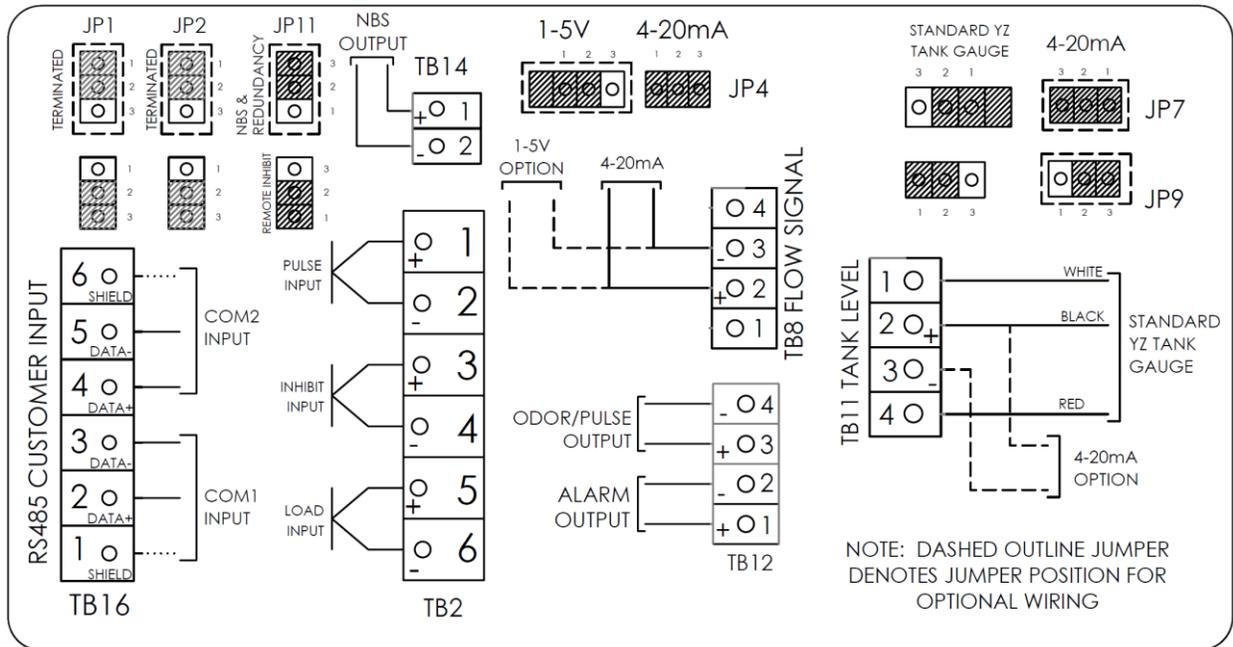

Figure 6 N-400 Controller Wiring Diagram Label
1. Connect the analog flow signal device to the termination block (TB8) located in the N-400 Controller OR the pulsed flow input to the termination block (TB2). Note the jumper placement (JP4) for each analog flow signal type and adjust if necessary. If using a pulsed flow input, the jumper position (JP4) is inconsequential. Refer to the *Wiring Control Document in Appendix B* and the Wiring Diagram reference label located inside the N-400 Controller Door or below in Figure 6.
2. For cabinet only systems, connect the tank level device to the termination block (TB11) located in the N-400 Controller. For skid mount systems, the tank level device will be factory wired to the N-400 Controller. In the instance of a dual cabinet skid mounted unit, the tank level will only be wired to one controller. Note the jumper placements (JP7 and JP9) for tank level signal type and adjust if necessary. Refer to the *Wiring Control Document in Appendix B* and the Wiring Diagram reference label located inside the N-400 Controller Door or below in Figure 6.
3. If used, connect the optional Remote Inhibit Input signal to the termination block (TB2) located in the N-400 Controller. Refer to the *Wiring Control Document in Appendix B* and the Wiring Diagram reference label located inside the N-400 Controller Door or below in Figure 6.
5. If used, connect the RS-485 communication wiring as required to the termination block (TB16) located in the N-400 Controller. Refer to the *Wiring Control Document in Appendix B* and the Wiring Diagram reference label located inside the N-400 Controller Door or below in Figure 6.
6. If applicable, to wire two cabinets for redundancy, connect the NBS output termination block (TB14) of the primary system to the Inhibit Input of the backup system (TB2 Pins 3 and 4) located in the N-400 Controller. Mirror the connection from the backup to the primary system by connecting the NBS output termination block (TB14) of the backup system to the Inhibit Input of the primary system (TB2 Pins 3 and 4). Refer to the *Wiring Control Document in Appendix B*, the Wiring Diagram reference label located inside the N-400 Controller Door or below in Figure 6, and the Redundancy Wiring Diagram in Figure 7 if needed.